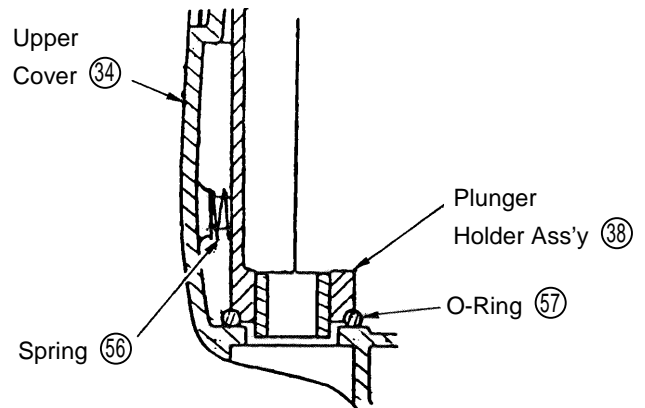

Fig. 19
- (6) Grease:
- the teeth of the Gear (50)
- the slide contact portions of the Balance Weights (48)
- inside of the Needle Roller (44)
- inside of the Connector (42)
- the slide contact portions of the plunger (58)
- the Plunger Holder Ass'y (38) surfaces in sliding contact with the Connector (42)
- (7) When installing the Plunger Holder Ass'y (38) in the Upper Cover (34), ensure that the O-Ring (57) is properly mounted at the lower portion of the Plunger Holder Ass'y (38), as shown in Fig. 19. Also, ensure that the two Springs (56) are properly mounted between the Plunger Holder Ass'y (38) and the Upper Cover (34).